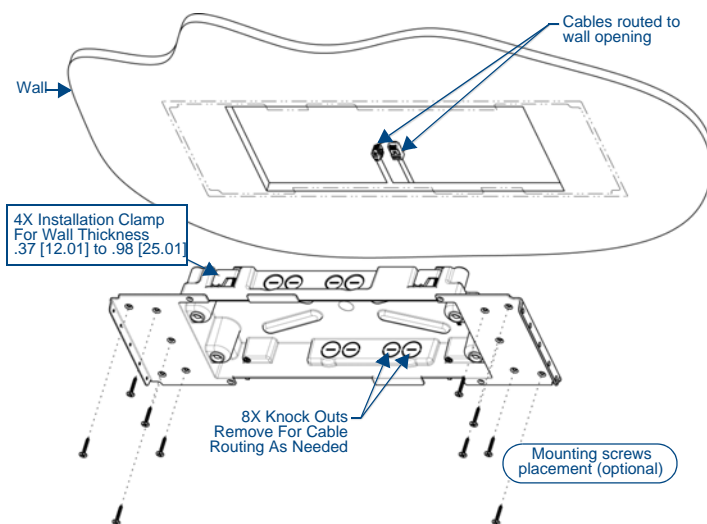

FIG. 4 MXD-1901-PAN Backbox installation (Landscape)
- Thread the incoming cables from their terminal locations through the surface opening (see FIG. 4 on reverse).
- For additional strength, #4 mounting screws (not included) may be secured through the mounting holes located at the left and right sides of the panel (FIG. 4).